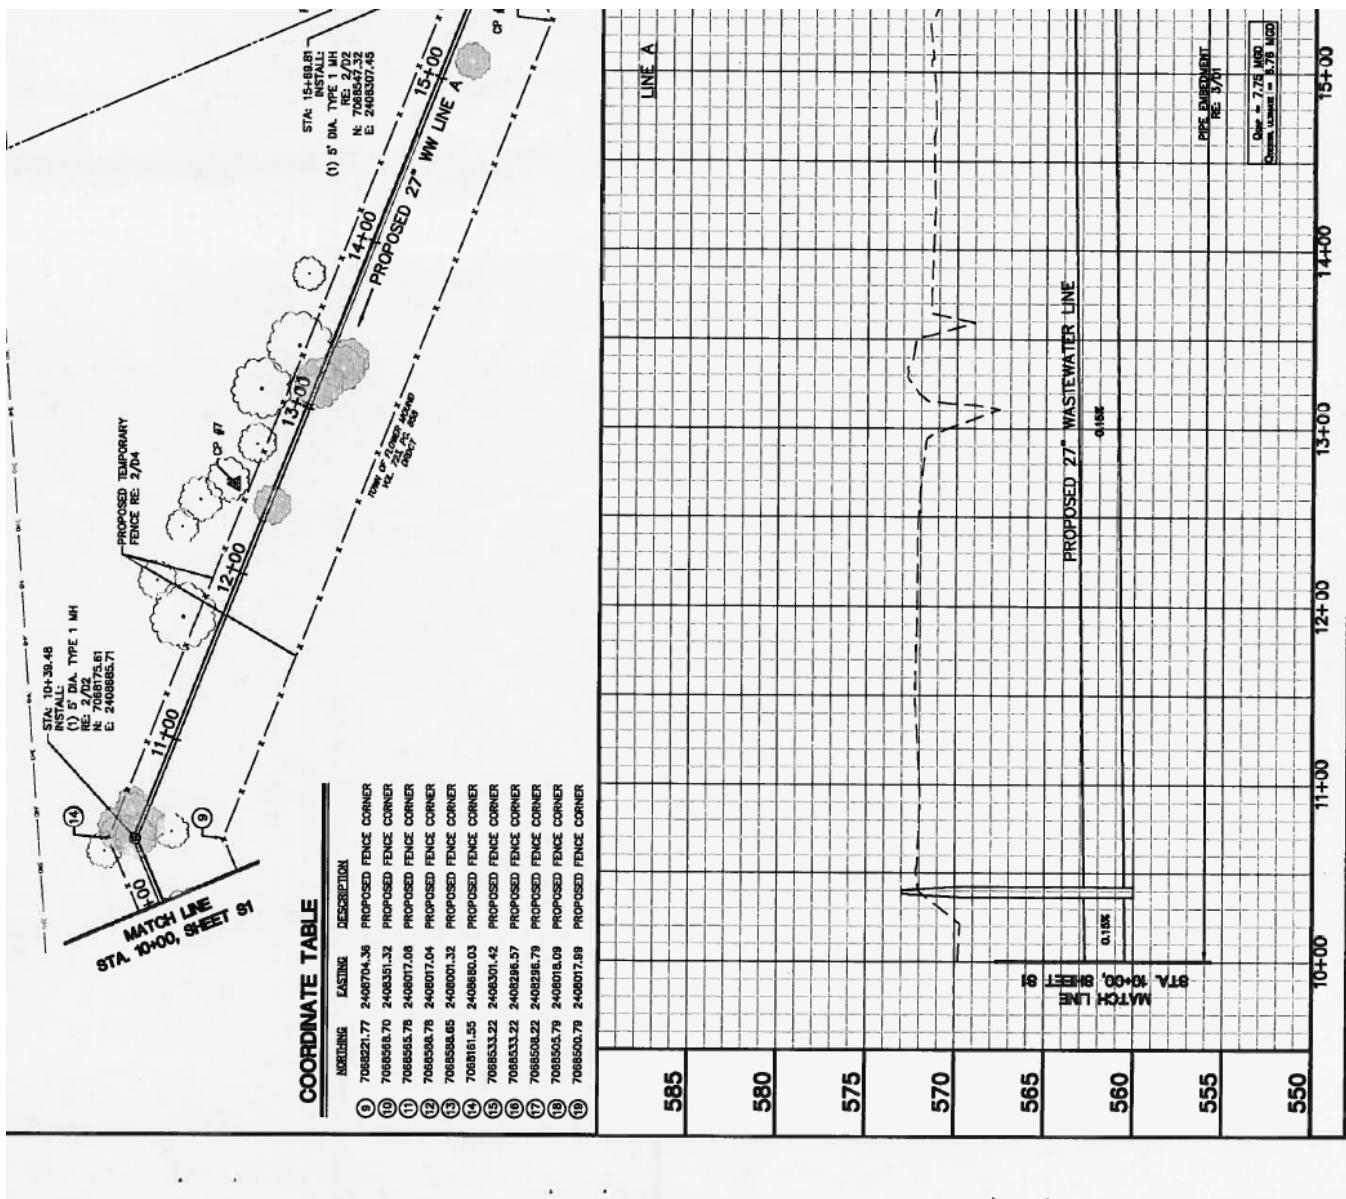

Figure 3: Engineering drawing of sanitary sewer system (display is rotated)
7. Figure 3 is a portion of an engineering drawing of a gravity-flow wastewater conduit.